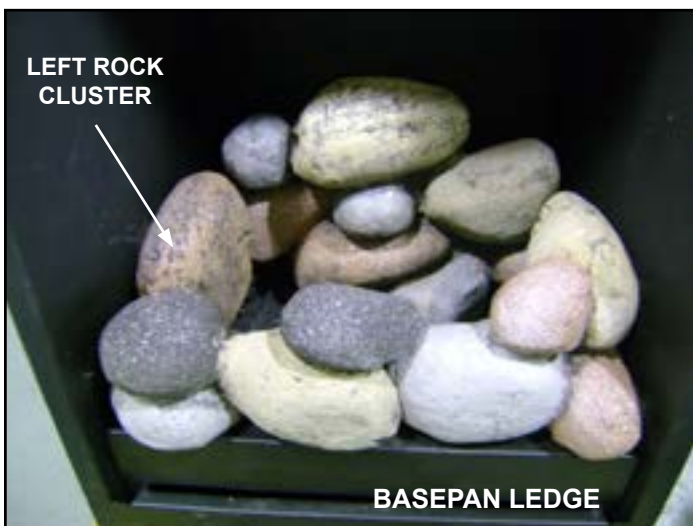
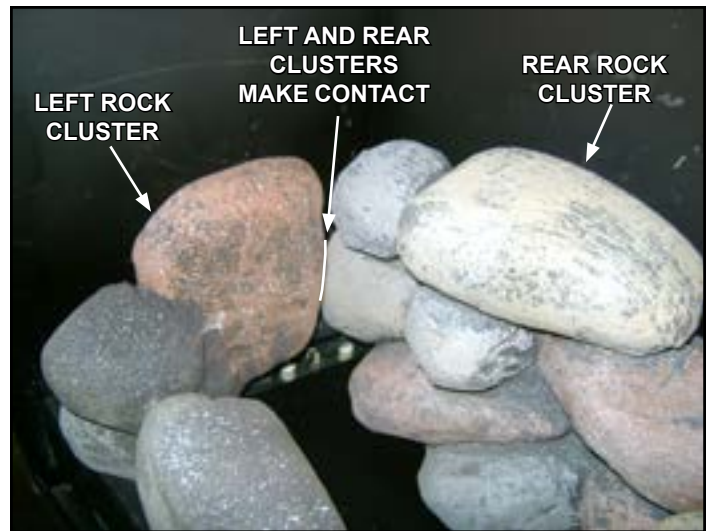

Figure 8.18 - Placing Left Rock Cluster
Figure 8.19 - Left and Rear Rock Clusters Make Contact
3. Place left rock cluster in firebox as shown in Figure 8.18. The left end of the cluster should touch the left wall of the firebox. Push cluster back until the rear and left rock clusters contact each other as shown in Figure 8.19. Ensure the rock clusters are not covering any burner ports.